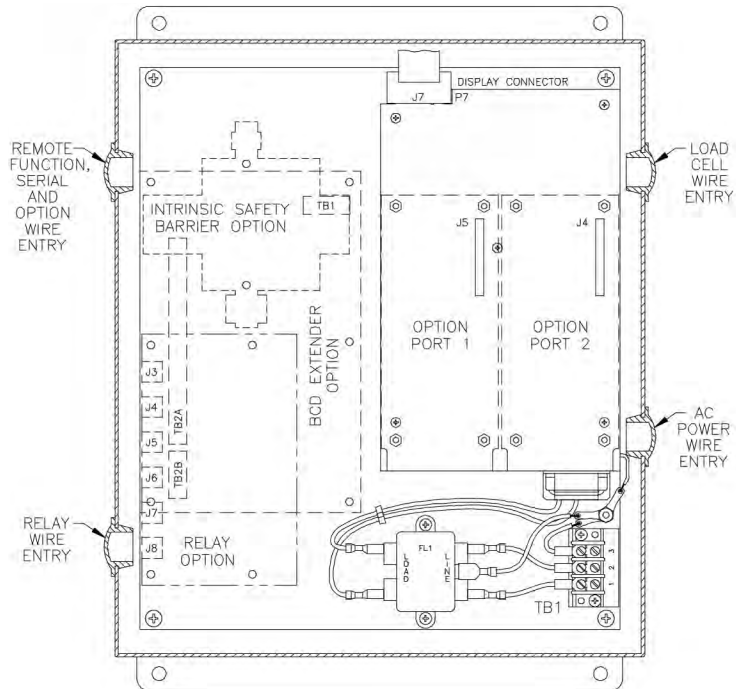

FIG. 3-7 WIRE ROUTING FOR WALL MOUNT MODEL
Step 5. Route wiring types through enclosure as shown in Fig. 3-7)